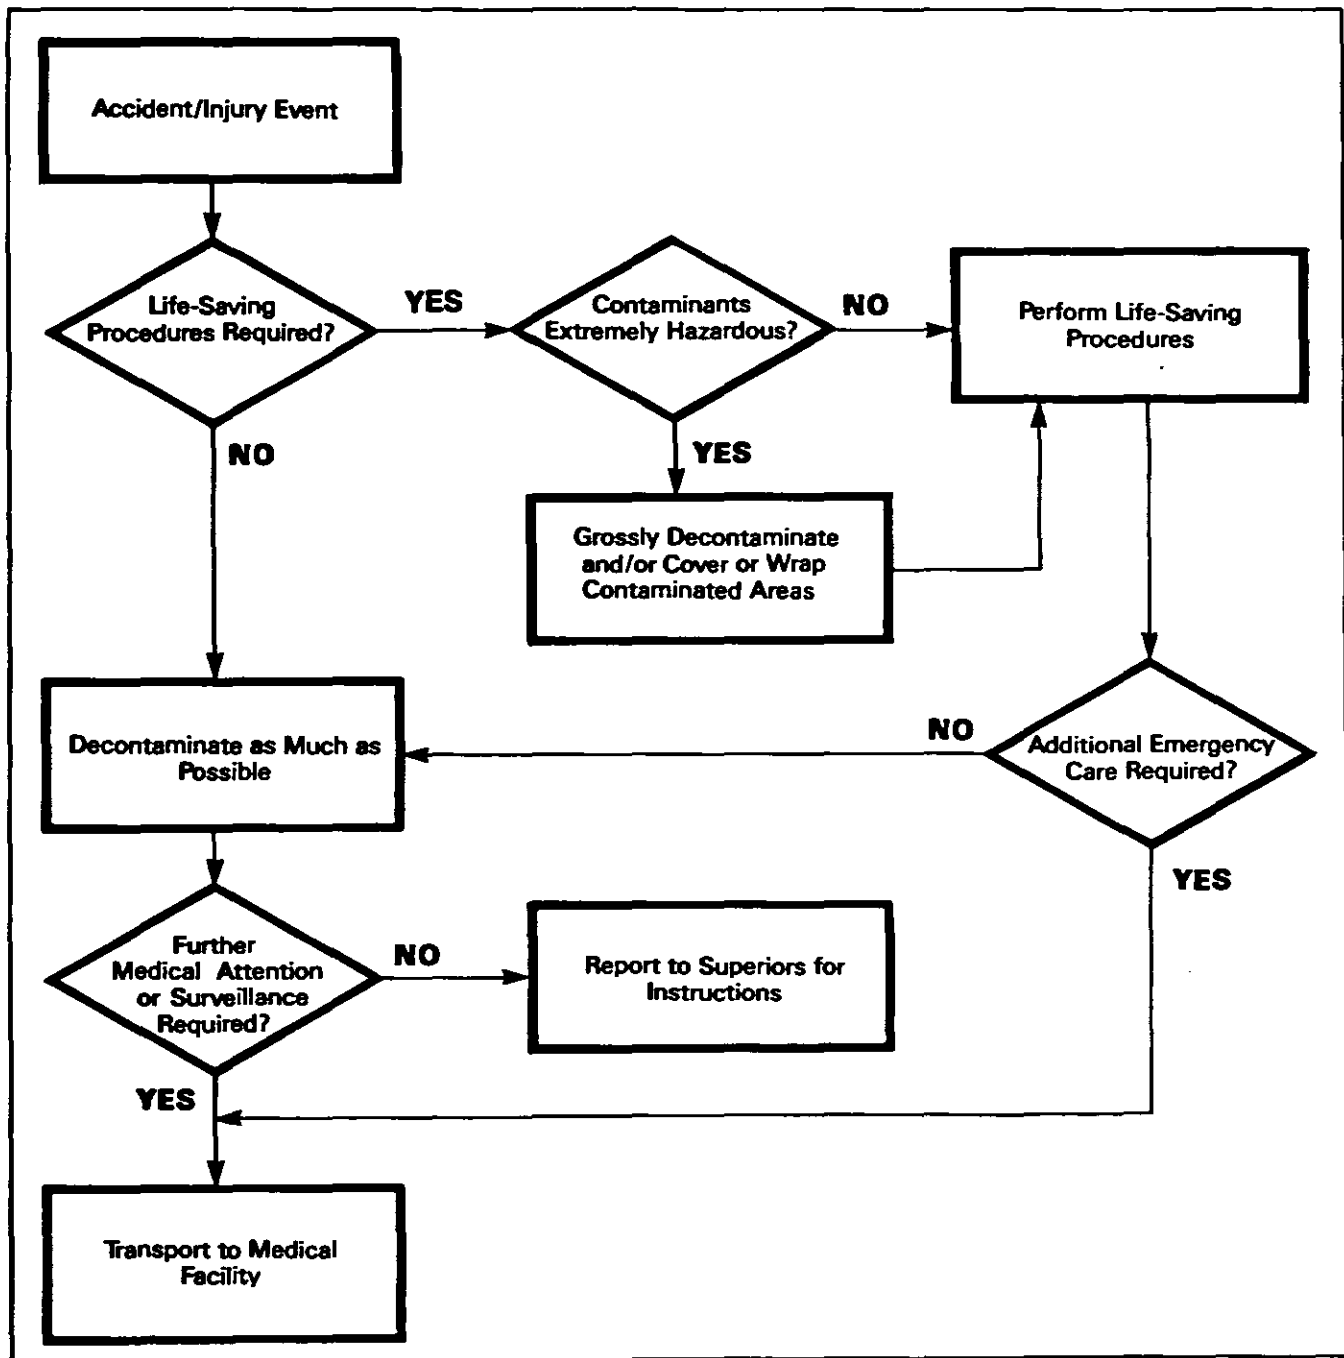

Figure 12-1. Decision Aid for Emergency Decontamination.
whether or not to decontaminate a victim is based on the type and severity of the illness or injury and the nature of the contaminant. For some emergency victims, immediate decontamination may be an essential part of life-saving first aid. For others, decontamination may aggravate the injury or delay life-saving treatment. If decontamination does not interfere with essential treatment, it should be performed. Figure 12-1 is a decision aid for emergency decontamination.
- **Decontaminate.** Use established procedures to decontaminate uninjured personnel in the Contamination Reduction Zone. If the emergency makes this area unsafe, establish a new decontamination area at an appropriate distance. Decontaminate victims before or after stabilization as their medical condition indicates (see Figure 12-1 for decision aid).